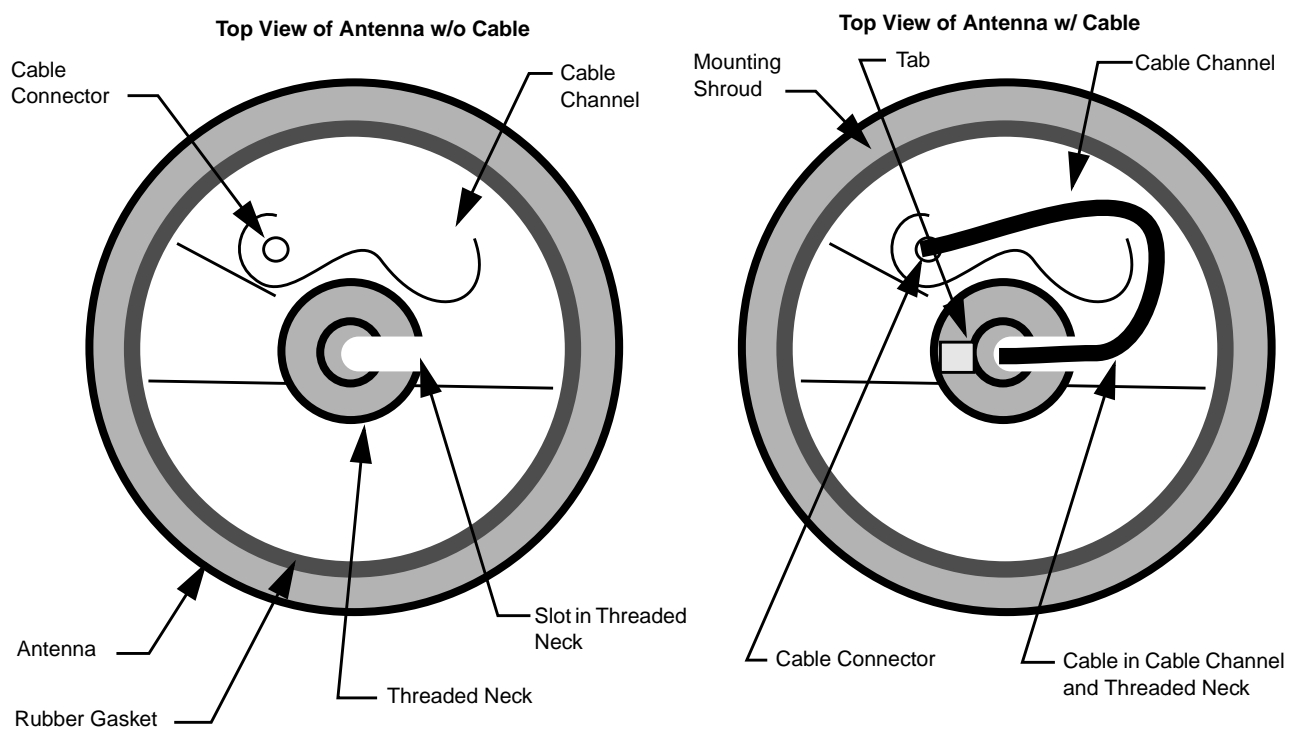

Figure E-3: Location and Orientation of the Cable and Connectors
2. Slide the small connector end of the cable through the following items (see Figure E-3):
6. Rotate the mounting shroud so the small tab in the center hole aligns with the cutout on the threaded neck of the antenna (see Figure E-3).